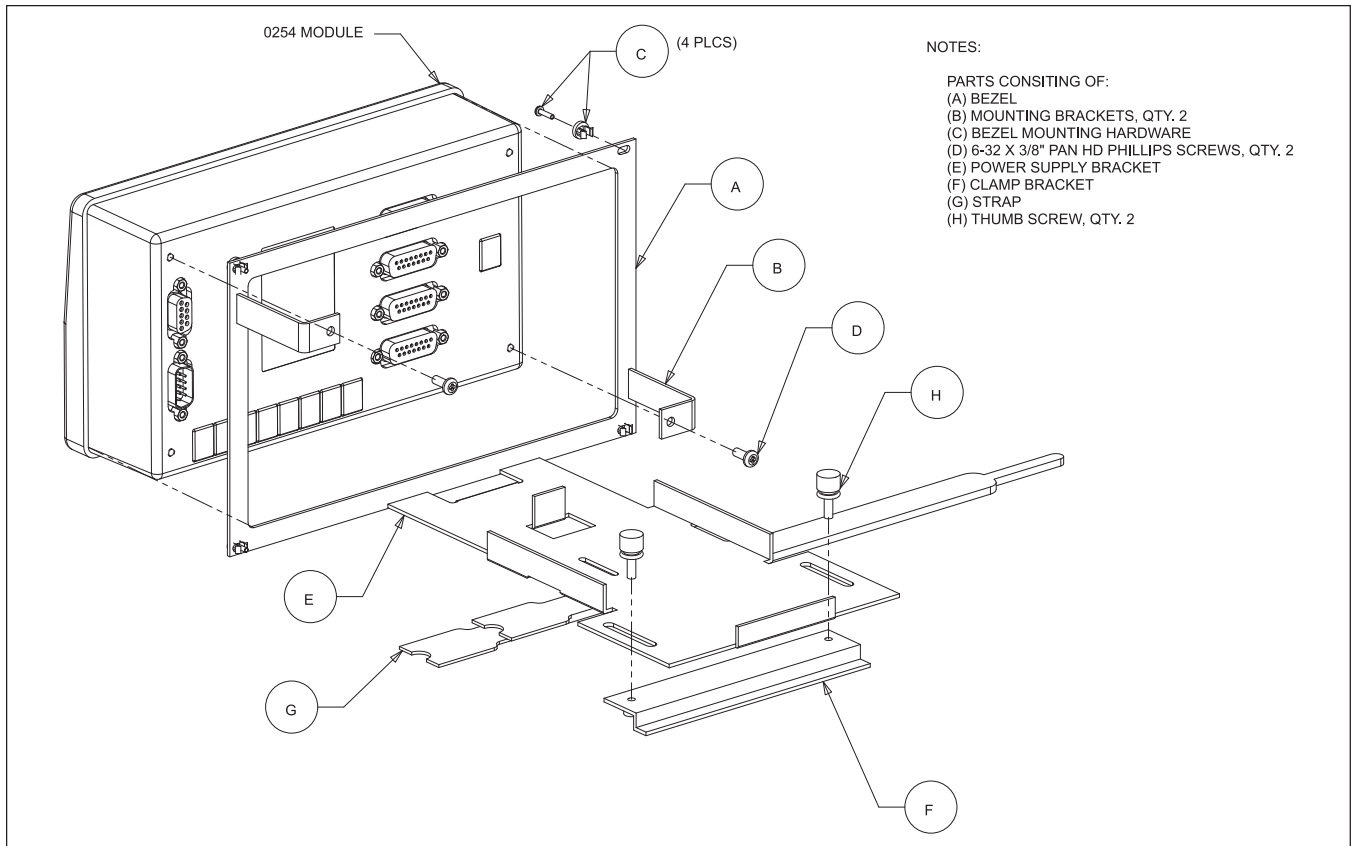
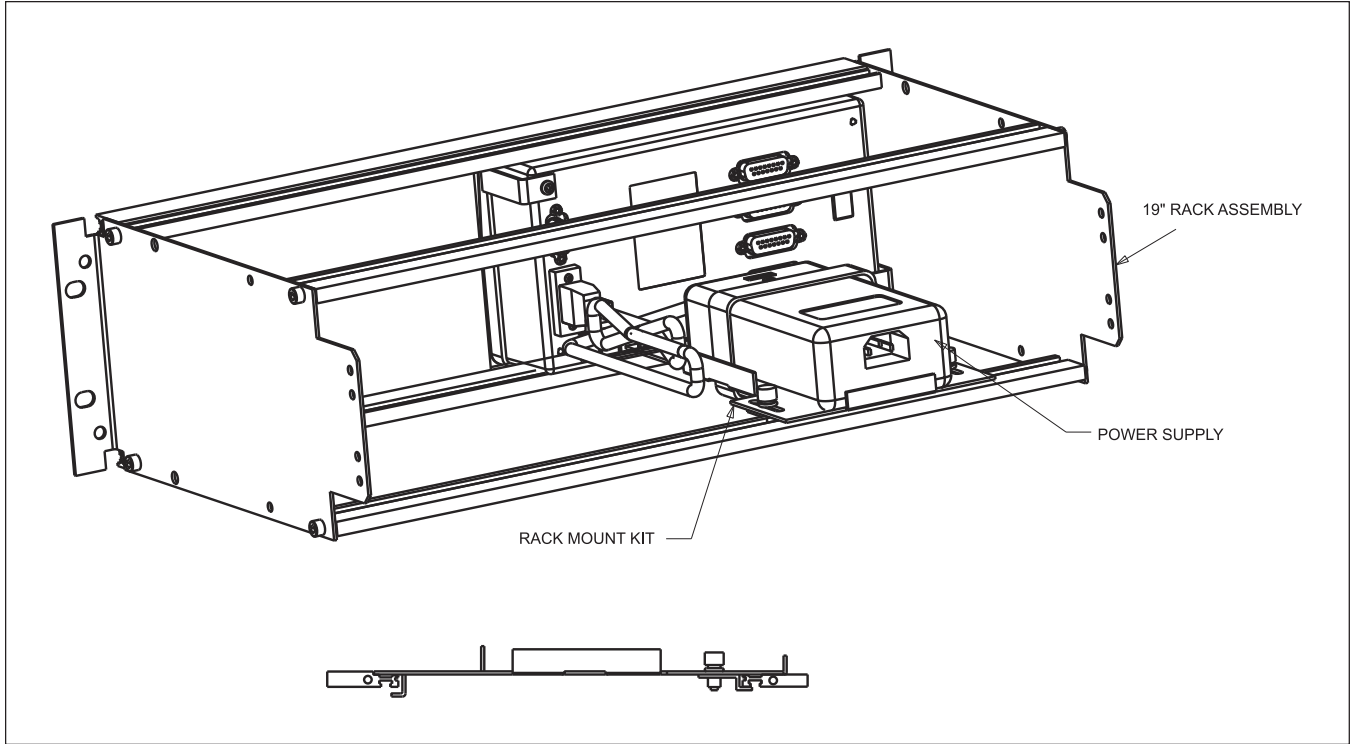

Figure 2-3 Power Supply Bracket and Bezel
Figure 2-4 Rack Installation
1. Slide the flange on the front of the power supply bracket, shown in Figure 2-3 on p. 2-8, under the rear channel rail of the box. For an illustration of the rail engagement, refer to Figure 2-4 on p. 2-9.
2. Slide the flange on the front of the power supply bracket, shown in Figure 2-3 on p. 2-8, under the rear channel rail of the rack.
Figure 2-4 on p. 2-9 shows a completed rack installation.